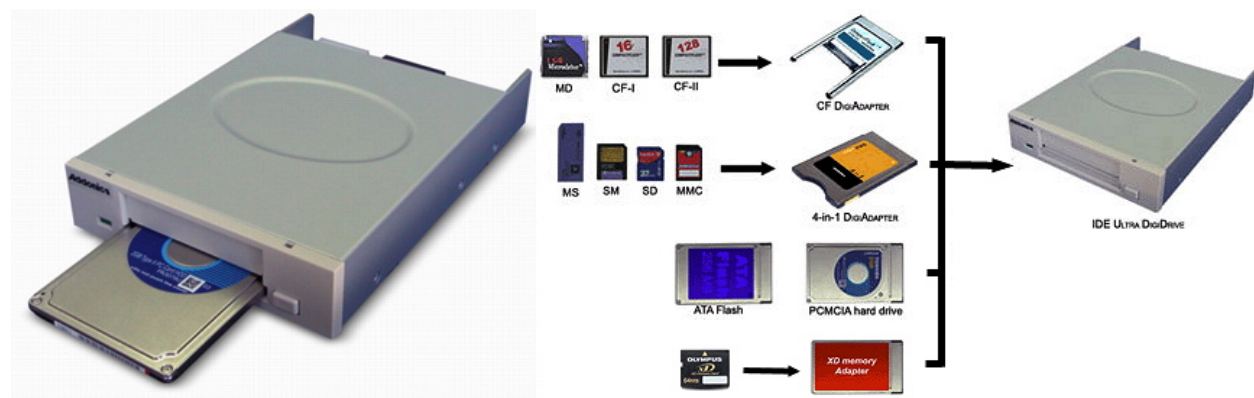

Figure 2. The Addonics IDE Ultra Digidrive.
- (1) The Addonics IDE Ultra Digidrive is shown in Figure 2. It comes with two faceplates and if you don't like the white you can use the black one to match the original drive in your EX5R. The Ultra Digidrive requires a PCMCIA adapter to read/write on CF-1, CF-2, SM, MS, SD, MMC, MD and XD cards. The original box contains just a drive with instructions, two faceplates and no adapters or memory cards of any kind. Its maximum transfer rate is 128 Mbits/sec. Addonics makes another IDE Digidrive that functions with all of the above cards except the XD one. That drive has a maximum transfer rate of 40 Mbits/sec and features four memory-card slots on its faceplate. However **it will not work with the proposed upgrades** because it does not have removable-drive bios support as the Ultra Digidrive does.